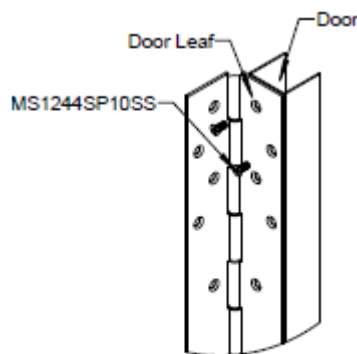

Fig. 3
1. Attaching hinge to door (Fig.3)